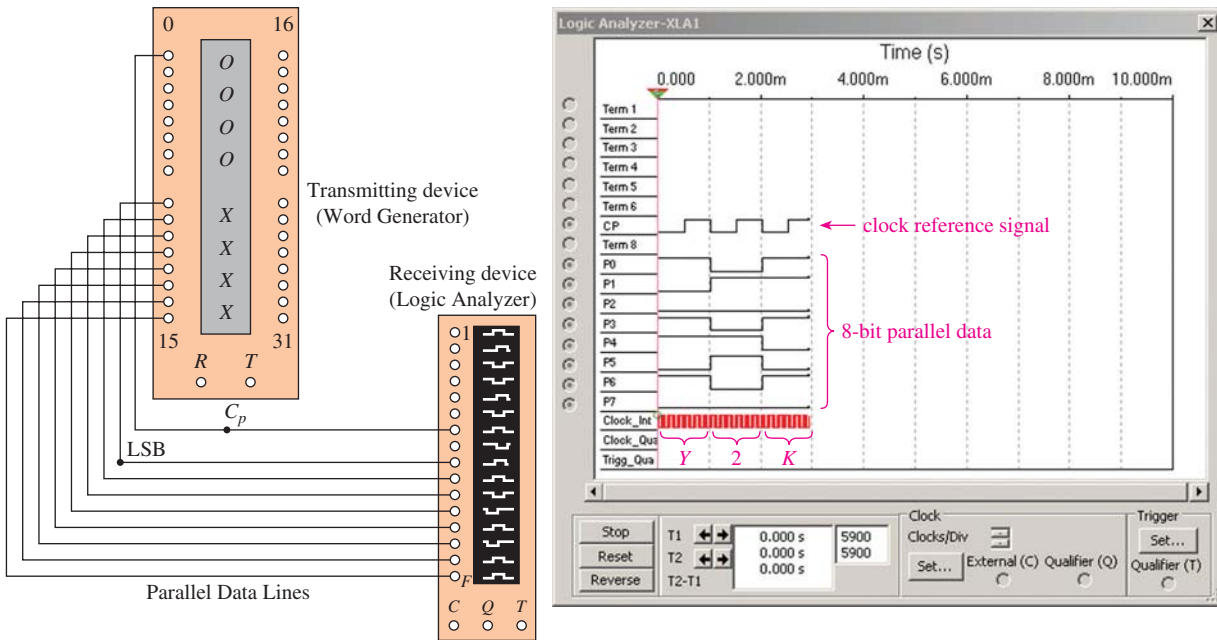

Figure 12 A MultiSIM simulation of the parallel transmission of the ASCII characters *Y2K*.
Figure 12 shows a MultiSIM simulation of the transmission of the three parallel ASCII characters *Y2K* from a transmitting device (the Word Generator) to a receiving device (the Logic Analyzer). The top trace in the Logic Analyzer displays a clock reference waveform (CP) of 3 clock periods, each period lasting 1 ms. The next eight traces show the parallel output data (PO-P7). Since ASCII is a 7-bit code and since digital systems work in 8-bit groupings, a leading zero is added to the MSB of each ASCII code. During the first period (the first column), the parallel data lines contain the code 0101 1001, which is the ASCII code for the letter *Y*. Look up the next two 8-bit columns in an ASCII chart and you will see that it is transmitting the letters *Y2K*.